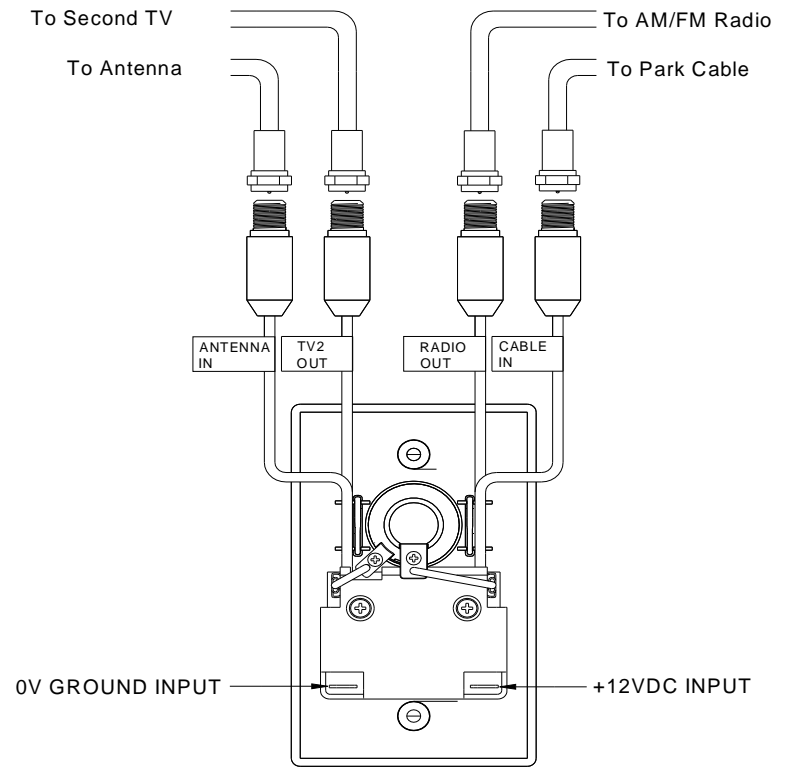

FIGURE 6
2. Connect all coax cables to the appropriate wall plate pigtail. Each pigtail has a label for identification. Connect the cable from the roof antenna to the "ANTENNA IN". Connect the "TV2 OUT" to TV input. "RADIO OUT" goes to the input of the AM/FM radio. "CABLE IN" connects to the Park Cable Input. See Figure 6. (*Do Not Over tighten*)
3. After connecting all coax cables, connect +12VDC wire to the + male spade terminal on the circuit board (marked with a red dot) using a 1/4" Insulated Female Spade Terminal. Then connect the ground wire (marked with a black dot) using the same type terminal. See Figure 6.